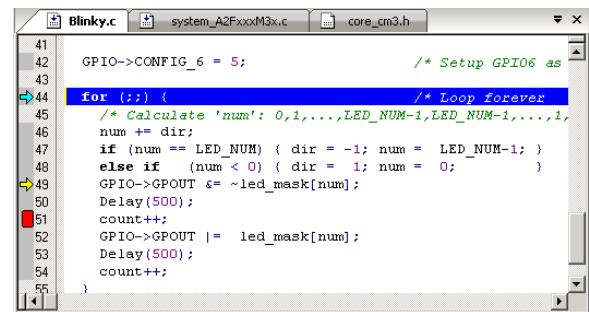

Figure 18: Breakpoint set on Line 51
1. Double-click on the left margin in a source or disassembly file: even while the program is running. Figure 18 shows the set breakpoint by the red box. This must be set on a gray box which indicates there is an assembly instruction present. Line 45 has no assembly instructions while 46 does.
5. The Exception Trace window will display the SysTick timer in Figure 18. Double-click to reset.